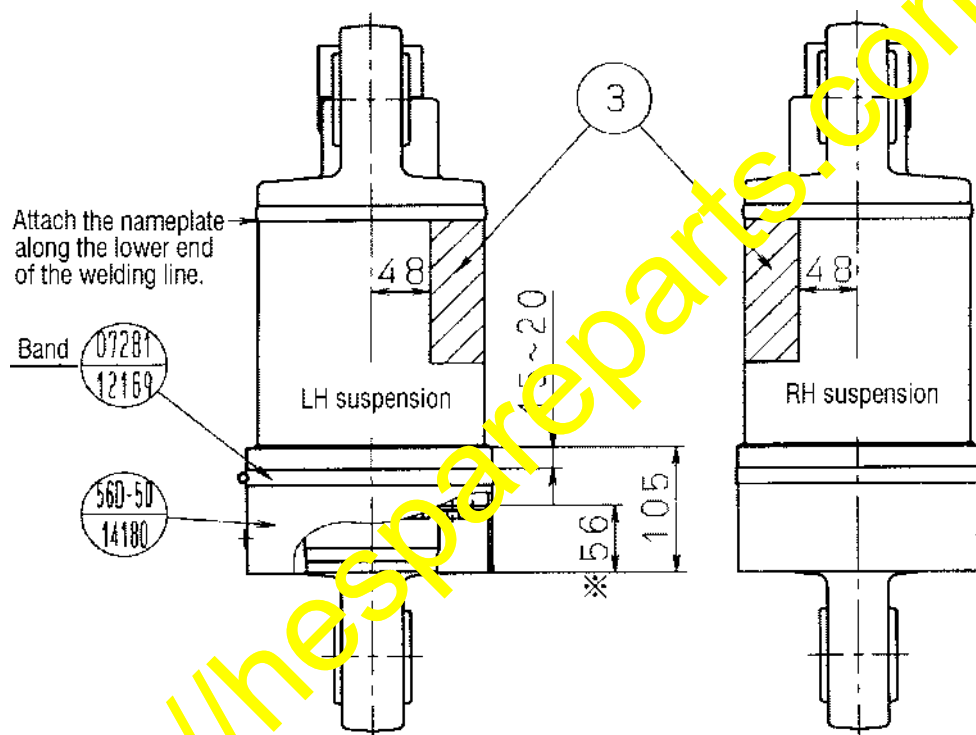

Fig. 3 When the suspensions are viewed from the rear side of the HM300-1 vehicle body
(3) HM300-1 (Refer to Fig. 3.)
- In case of a vehicle on which the larger sized suspension nameplates (①) for domestic use is being attached, since a portion of the nameplate may possibly be hidden by the mud guard, order smaller suspension nameplates (refer to Section 2 “List of parts”) and replace the nameplates as per the dimensional instructions given in the drawing below.